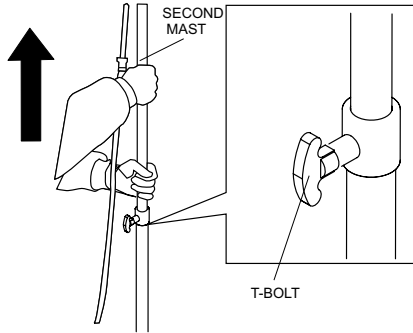

Figure 21. Lowering Second Mast
1. Loosen the T-bolt holding the second mast and push mast all the way down. Tighten T-bolt securely. See Figure 21.